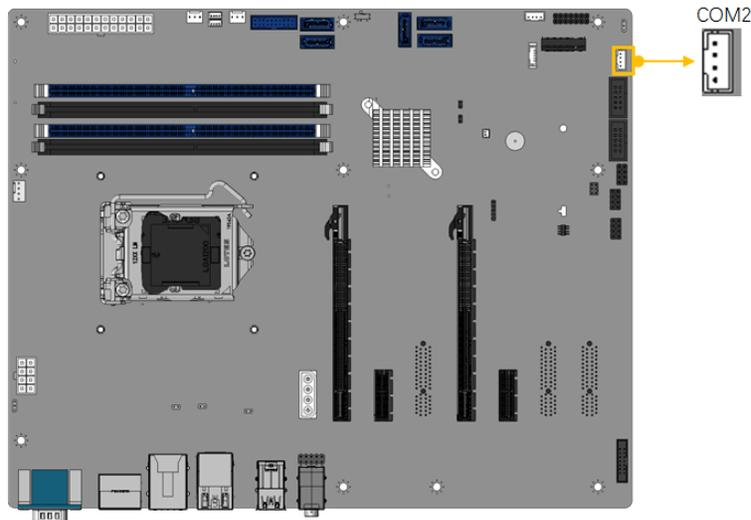
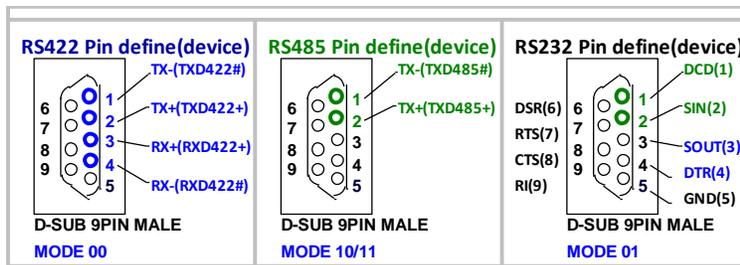

Figure 3-25: RS-422/485 Serial Port Connector
Figure 3-26: RS-422, RS-485, RS-232 Pin define (device)
- CN Location:** See **Figure 3-25** and **Figure 3-26**